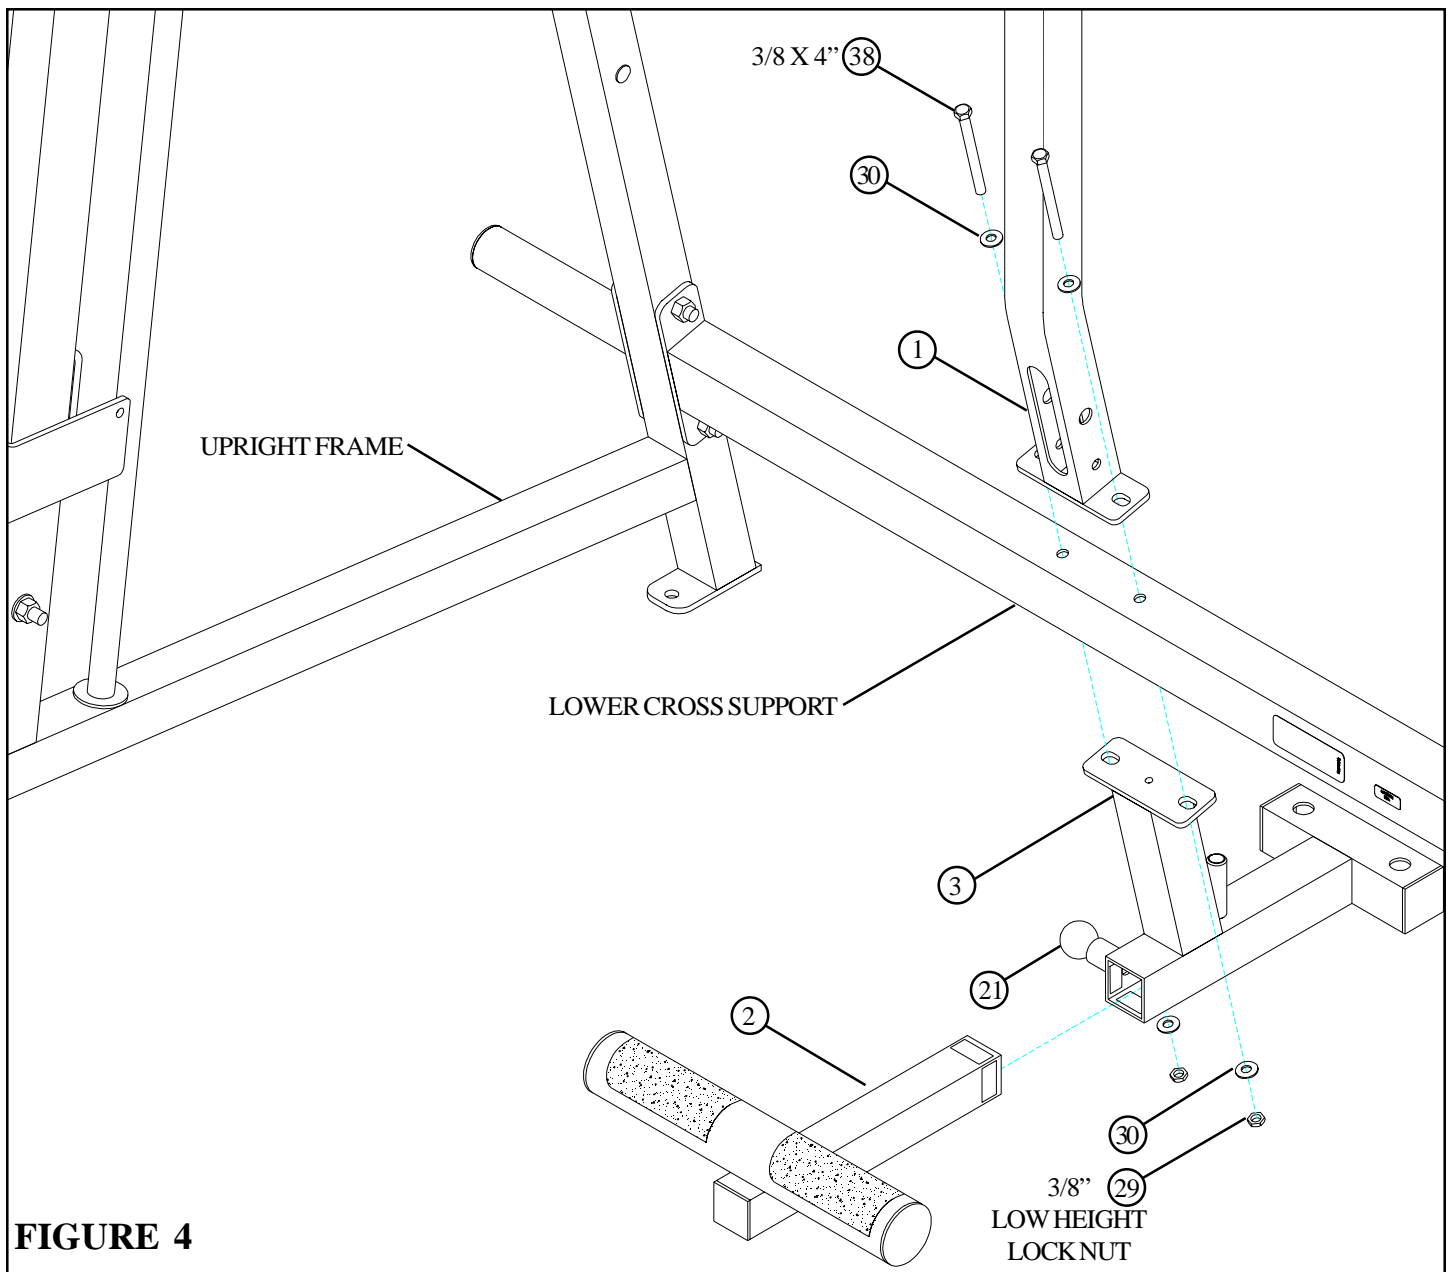

FIGURE 4
- **SECURELY** assemble the STACK BASE (3) and the UPRIGHT (1) to the LOWER CROSS SUPPORT using two 3/8 X 4" BOLTS (38), four 3/8" WASHERS (30), and two 3/8" LOW HEIGHT LOCK NUTS (29). See FIGURE 4.
- Pull back on the SPRING PIN (21) and **CAREFULLY** insert the ADJ. FOOT SUPPORT (2) into the STACK BASE (3) as shown in FIGURE 4.